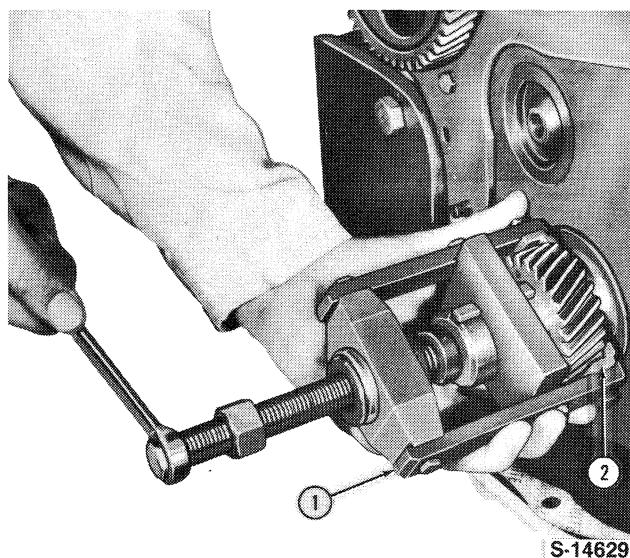

Figure 28
9. To remove the crankshaft gear, use tool No. 2134, with insert No. 1237, Figure 28.